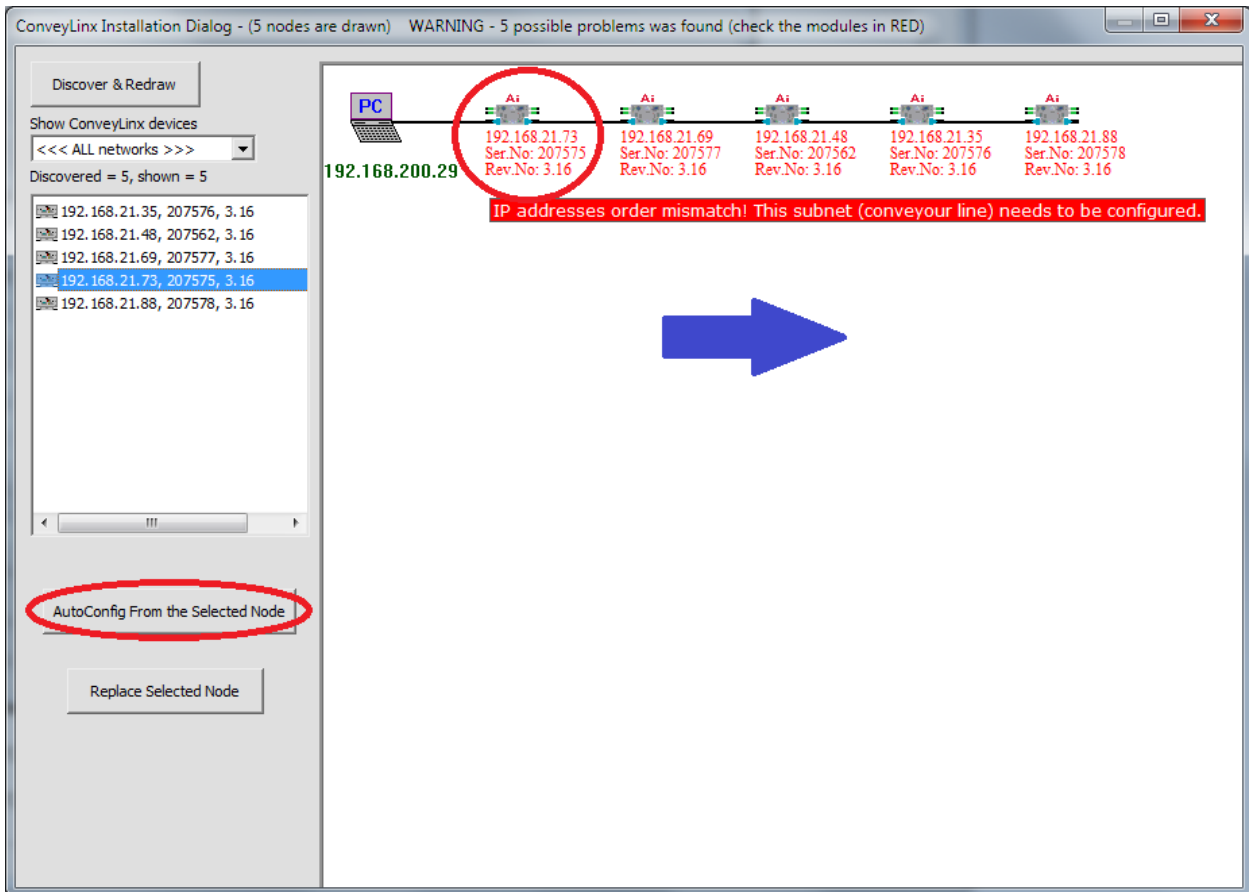

FIGURE 25 – TOPOLOGY VIEW AND INITIATING AUTO-CONFIGURE FROM THE SELECTED NODE
3. When the topology is drawn, select the ConveyLinx Ai2 module from which you want to configure the line and click "Auto-Configure from selected node" as shown in Figure 25.